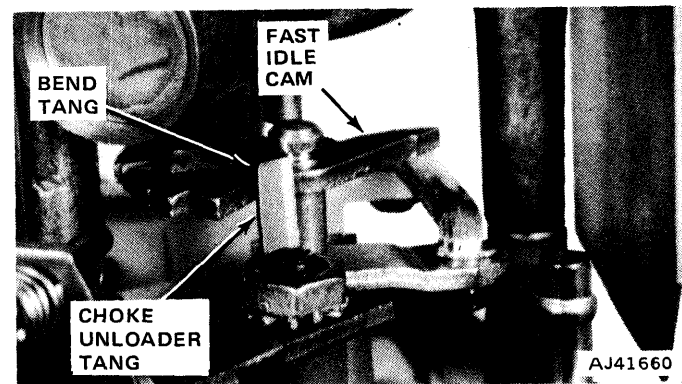

Fig. 4-84 Unloader-to-Fast Idle Cam Clearance
- (4) After making adjustment, open throttle until unloader tang is directly below fast idle cam pivot. There must be exactly 0.070-inch clearance between unloader tang and edge of fast idle cam (fig. 4-84).